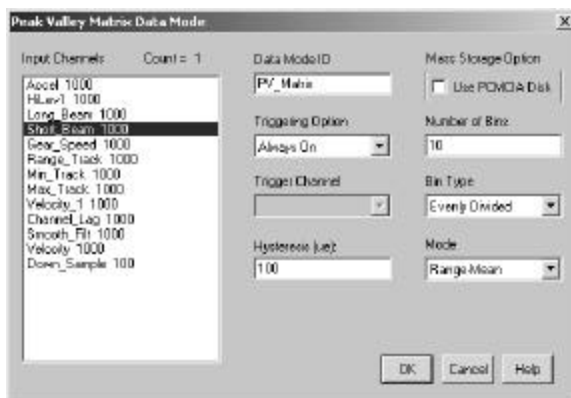

Figure 9-8: Peak Valley Matrix Definition Dialog Box
1. Select PV Matrix from the Select Data Mode Type dialog box. The Peak Valley Matrix Data Mode definition dialog box opens. Figure 9-8 shows it with example definition data. The channel highlighted in the Input Channels list box is the channel selected as the input for the DataMode.